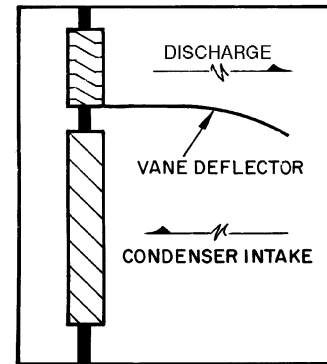

Fig. 11 — Condenser Ductwork Details
Step 6 — Ductwork — The 09BY unit is designed for use either with or without ductwork or rain louvers. If either is used, care must be taken to eliminate air recirculation. Recirculation can be minimized by discharging through an extension elbow. When properly designed, single deflection discharge louvers can be applied to ductwork and to the condenser air discharge. Fixed rain louvers over discharge outlets can cause excessive recirculation and nuisance high-pressure switch cutouts. Obstructions closer than 10 ft to the discharge air pattern can also cause significant recirculation. See Fig. 11 for ductwork installation to prevent recirculation of air.